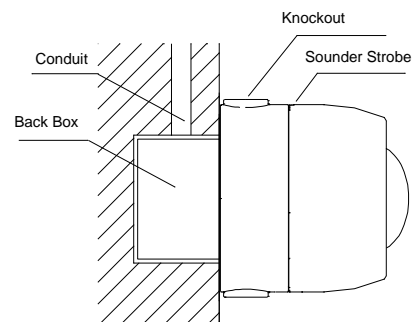
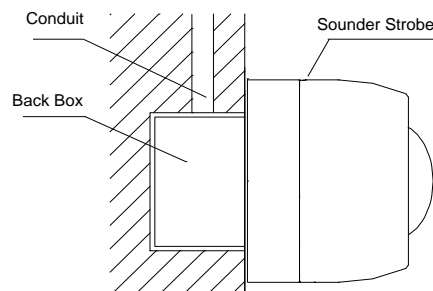
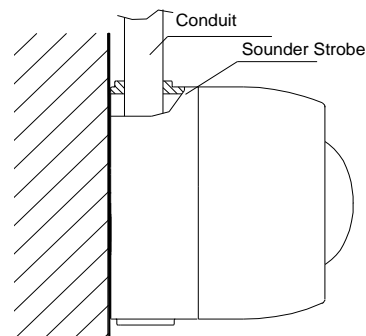

Fig. 3a
Fig. 3b
Fig. 4
- ✧ When surface mounted, the sounder strobe should be placed 0.2m from the ceiling for normal space height. When the conduit is embedded, the base can be mounted on the back box. When the conduit is surface mounted, the deep base should be adopted. Knock the knockout hole, and connect the conduit with it. The mounting hole spacing and mounting direction are shown in Fig. 2. Mounting method is shown in Fig. 3a and Fig. 4. The conduit must be embedded when the shallow base is used, as shown in Fig. 3b.